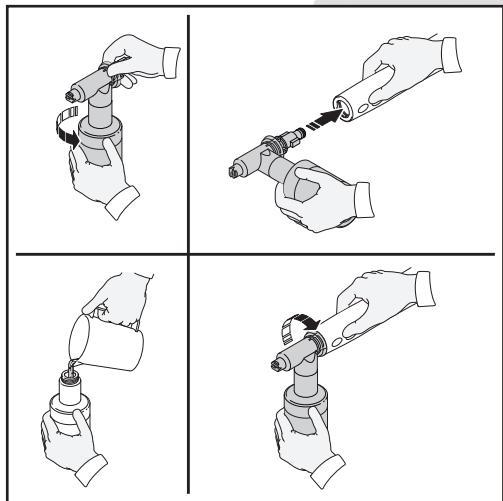
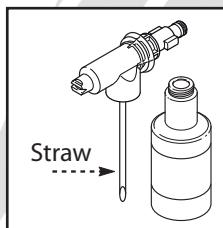

Fig. 8
Fig. 9
- When using the detergent bottle, fill it with a properly formulated detergent or cleaner with water ratio according to instructions on the container (Fig. 8). The detergent bottle comes with a straw which is fitted into the screw-on top. If you don't see the straw, look inside the bottle and attach it to the screw-on top (Fig. 9).